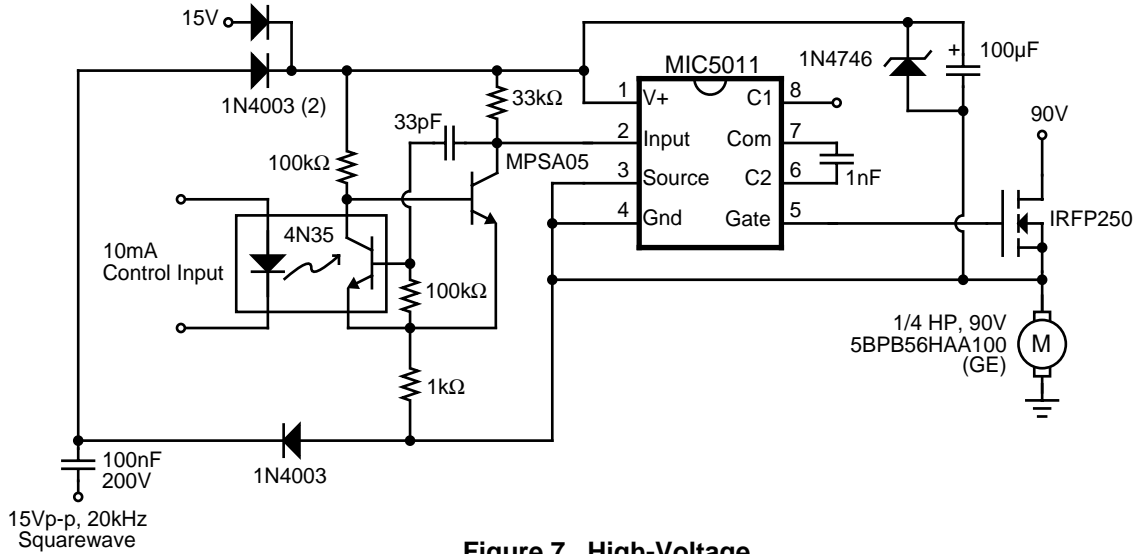

Figure 7. High-Voltage Bootstrapped Driver
**High-Voltage Bootstrap** (Figure 7). Although the MIC5011 is limited to operation on 4.75 to 32V supplies, a floating bootstrap arrangement can be used to build a high-side switch that operates on much higher voltages. The MIC5011 and MOSFET are configured as a low-side driver, but the load is connected in series with ground.